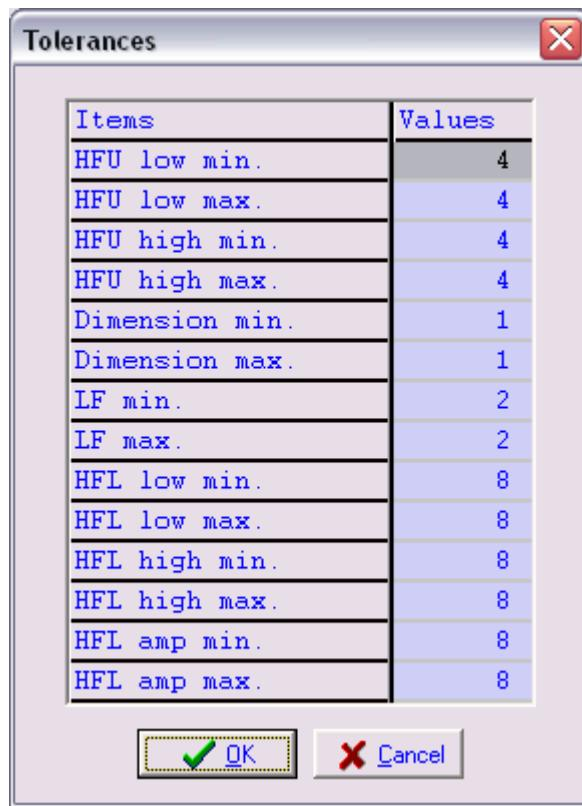

FIGURE 5
Unchecked this checkbox will permit you to open the window of tolerances (Figure 5) in order to indicate to personalize them to coins that you calibrate.
- If you didn't check the checkbox « *Tolerance auto* » the window of tolerances is displayed. (Figure 5). In this case inform fields.